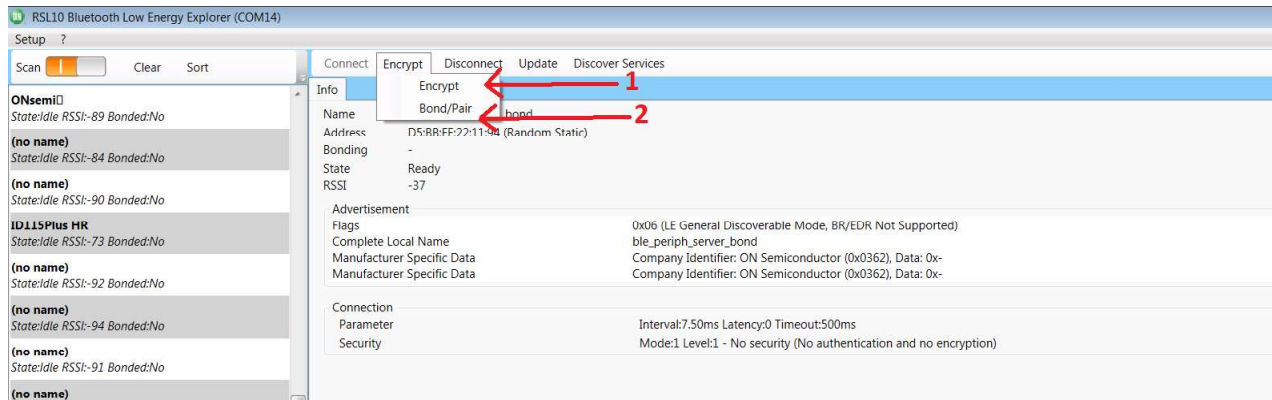

Figure 7. Menu for an Encrypted Connection
2. To change the connection to an encrypted one without saving bond information, press the **Encrypt** button as shown in Figure 7.
3. To have an encrypted connection and saved pairing information, press **Bond/Pair** as shown in **Figure 7**.